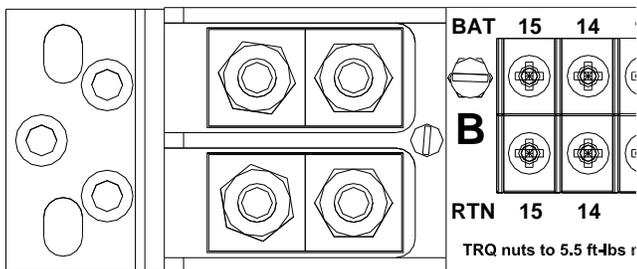

Figure 4.4.1
4.4. Remove the distribution fuse feeding the input cables that are to be connected to the new panel. Attach the input cables to the input terminal block in accordance to the National Electrical Code, ANSI/NFPA, and Canadian Electrical code. Hook up the input cables to the input terminal block on the fuse panel (“BAT” & “RTN” for each bus). Each high current input terminal uses a two hole compression lug (1/4” on 5/8”, torque to 5.5 ft-lbs). A two hole lug must be used for proper operation (see fig 4.4.1)